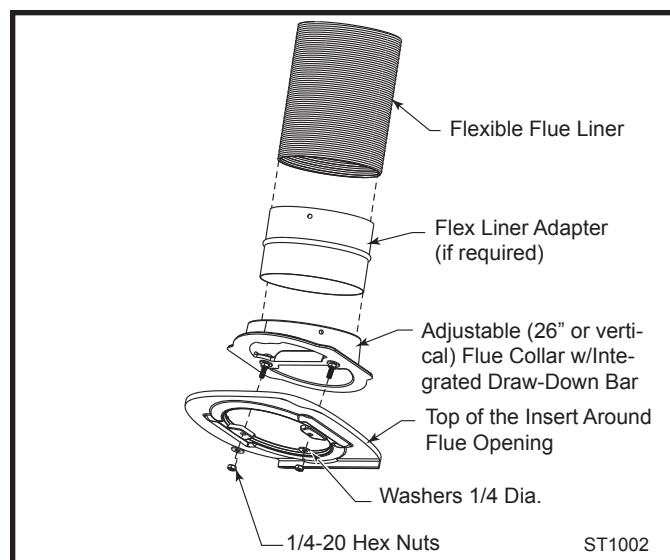

Fig. 6 Components of the venting system.
3. **Install the venting system:** Again, depending on your application it may be easiest to install the connector or stainless steel flue liner in the chimney first. Refer to Figure 6 for the components of the venting system.